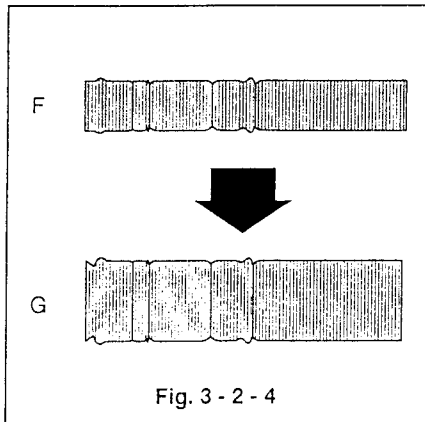

Fig. 3-2-4
- ② Preset tracking. (Refer to NOTE 1 in Para. 3.)
- ③ Check the FM waveform after checking and adjusting the guide rollers.
- ④ If the amplitude of the FM waveform is narrow like F because of out of phase, adjust it to maximum like G, as shown in Fig. 3-2-4 by the following procedure. Loosen the screw E, insert a screw driver into the groove at the Base A/C and the main plate, and shift the Base A/C right and left.
- ⑤ Tighten the screw E to secure the base-A/C in place.